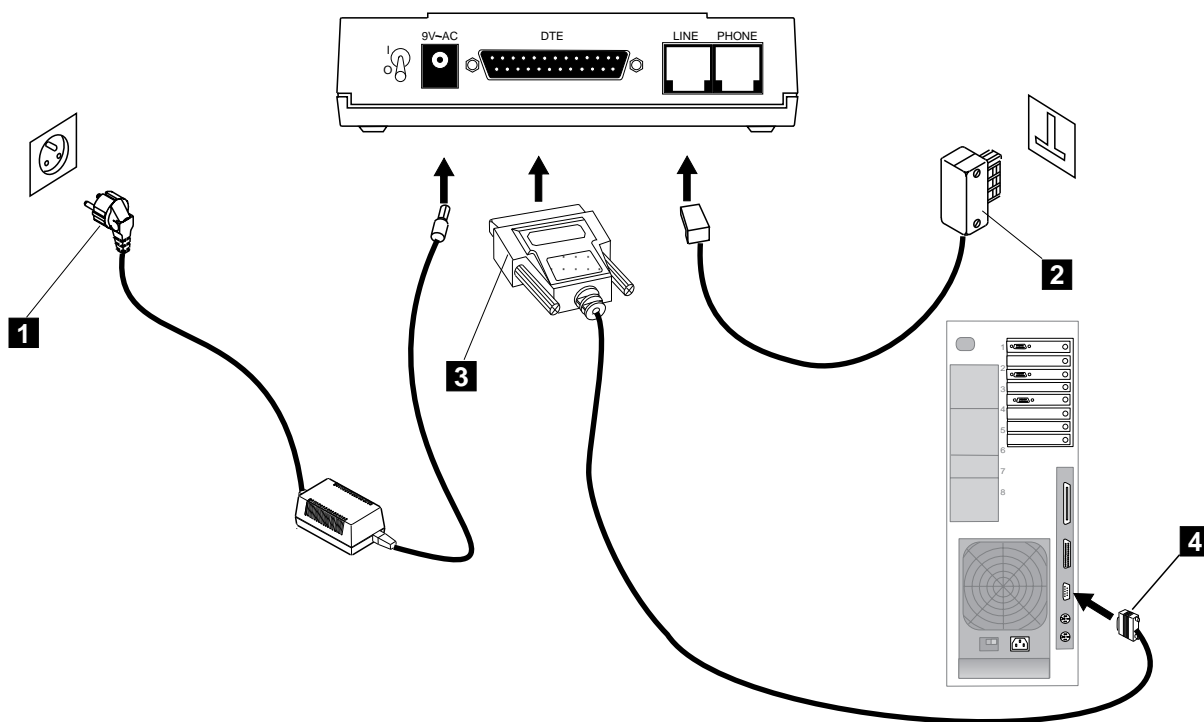

Figure 1-78. Connecting the 9585 (Port COM1) to the Hayes
- **9585**, Figure 1-78 on page 1-68.